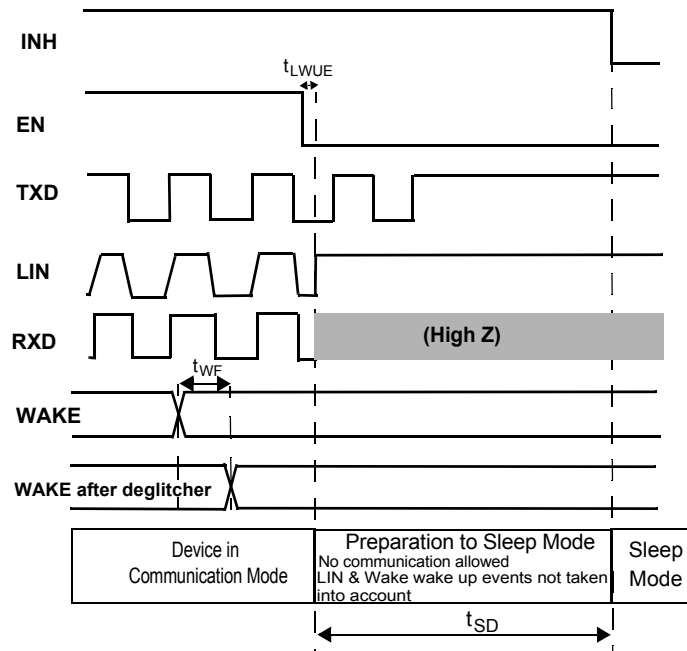

Figure 22. Sleep Mode Sequence for LIN1 or LIN2
24. See Figures 22 and 23
EN1 (EN2) input pin controls the operation mode of the interface. If EN1 (EN2) = 1, the interface is in Normal mode, TXD1 (TXD2) to LIN1 (LIN2) after t_{FIRS_DOM} delay and LIN1 (LIN2) to RXD1 (RXD2) paths are both active. EN1 (EN2) pin thresholds are 3.3 V and 5.0 V compatible. RXD1 (RXD2) V_{OH} level follows EN1 (EN2) pin high level. One LIN Module enters the Sleep Mode by setting EN1 (EN2) LOW for a delay higher than t_{SD} (70 μ s typ. value) and if the WAKE1 (WAKE2) pin state doesn't change during this delay. (see Figure 22). Both LIN Modules enter Sleep Mode if EN1 & EN2 LOW.